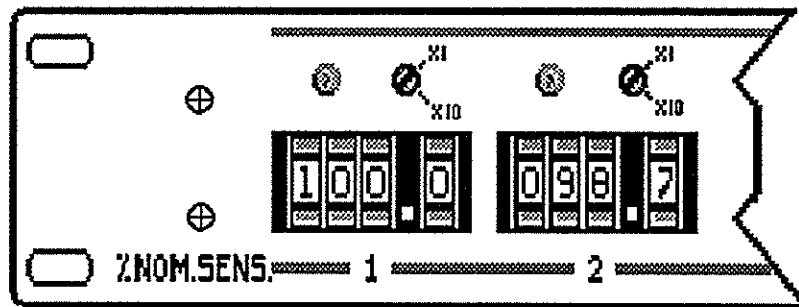

Figure 4
- (d) Set the gain switch (S5) to x1, and the % of nominal sensitivity switches (S1–S4) to read 100.0%, as shown below on figure 4 channel 1.
Check that the gain adjustment switch (S5) is in the "x1" position. The signal conditioner will now be providing an output of 10 mV/g on channel 1. Figure 4 channel 2 shows this set-up arrangement.